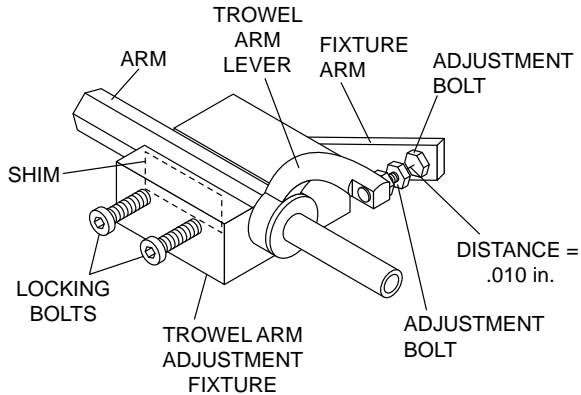

Figure 42. Trowel Arm Adjustment Fixture Components
3. Unscrew the locking bolts on the adjustment tool and place the trowel arm into the fixture channel as shown in Figure 42. A thin shim may be required to cover the blade holes on the trowel arm. Make sure to align the trowel adjustment bolt with the fixture adjustment bolt.
5. Adjust the bolt “distance” shown in Figure 42 to match one of the arms. The other arms will be adjusted to match this distance.